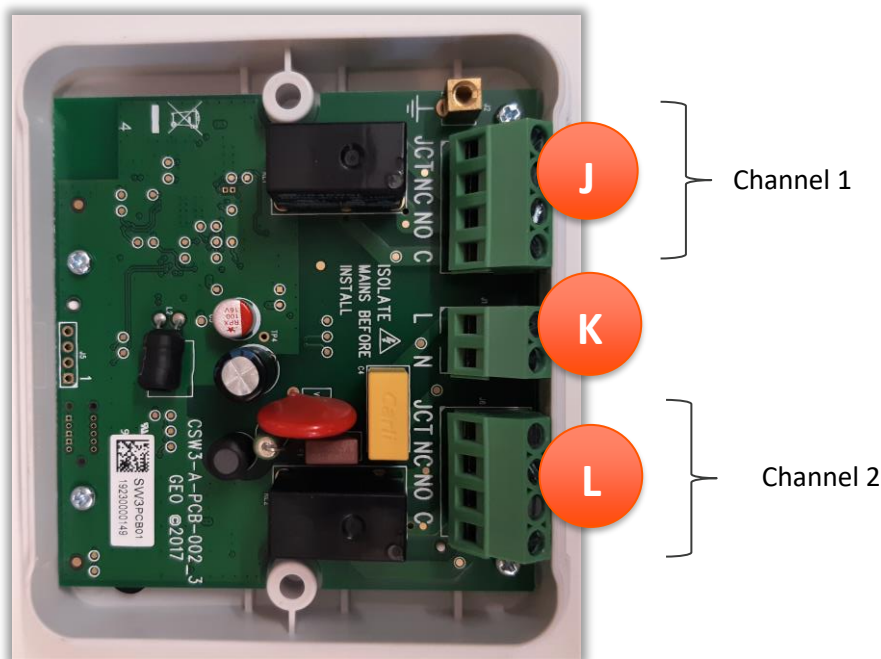

Fig 3.0 Switch Channels
- Each Switch contains two independent channels that are wired into the heating or hot water control units. The channels are shown below in Fig 3.0
- Each channel in a Switch has an associated relay with Normally open (NO), normally closed (NC) and common (C) connections.
- Wire in the 230V supply on connector K. (see Fig 3.0). If a permanent 230v supply is not available at the installation point then it may be possible to use the feed from the existing heating system programmer. This may require that the programmer is left in a permanently on or off state (dependent on the wiring). If this is required, the programmer should be labelled to make it clear that it should be left on/off. In Y-Plan systems the HW Off feed is preferred.
- Wire in the relays on connectors J and L noting which zone and zone type is connected to each channel. (see Fig 3.0)